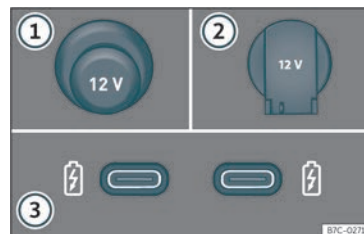

Fig. 127 Vehicle 12 volt socket.
12 volt power socket»» Fig. 127 :
- Remove the cover from the socket, located on the centre console»» Fig. 127 ①.
- Lift the power socket cover»» Fig. 127 ②.